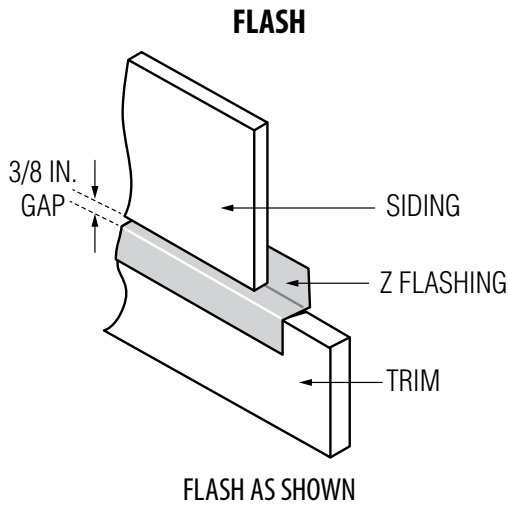

Figure 4
- Follow product specific nailing pattern (see Fig. 4).